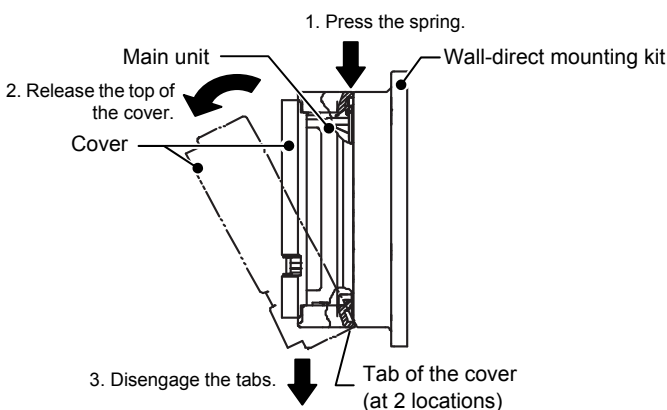

Figure 14. Cover removal
- 4) Remove the cover of Neosensor as shown in Fig. 14.
- 7) Attach the cover back to the Neosensor main unit and complete the installation. (See Fig. 14.)
- 5) Remove the cover of Neosensor as shown in Fig. 14.
- 8) Attach the cover back to the Neosensor main unit and complete the installation. (See Fig. 14.)
- 3) Remove the cover from the Neosensor main unit as shown in Fig. 14.